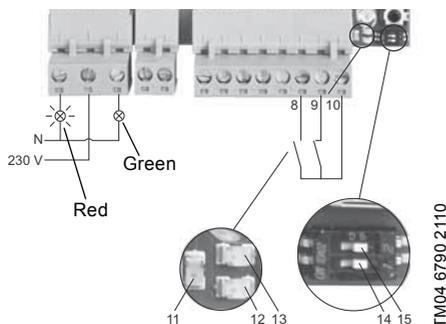

Fig. 10 Detection of overflow
See fig. 10.
The green indicator light indicating normal operation is off. LED1 (pos. 11) flashes. The number of flashes indicates the current alarm. See section 7.1.1 *System alarms and warnings* and fig. 10.